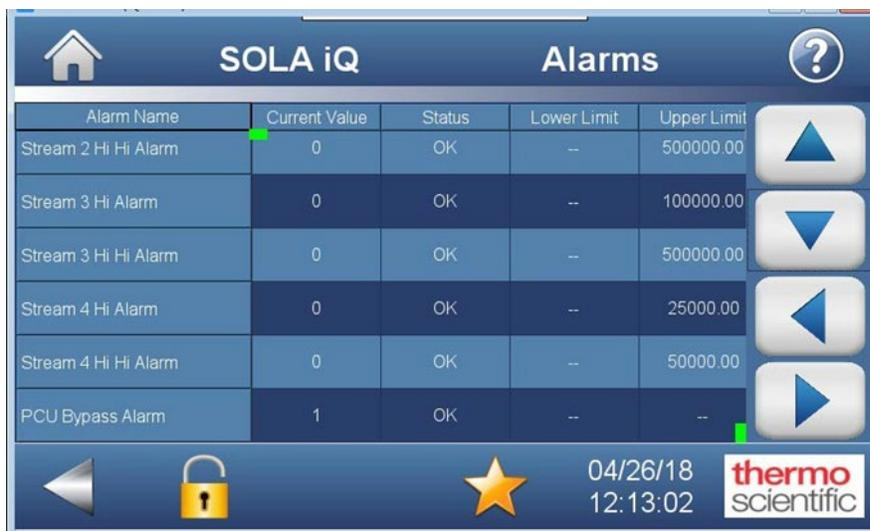

Figure 5–3. Display Alarms page
4. Press the icon to the right of the Padlock icon to reach the Alarms page. (See Figure 5–3) This icon is either a green checkmark if there are no alarm conditions or a red triangle bordering an exclamation mark (!) on a white background if an alarm condition exists. The Alarms page indicates the Current Value, Status, Lower Limit, Upper Limit and Deviation for the various alarms listed in the column entitled Alarm